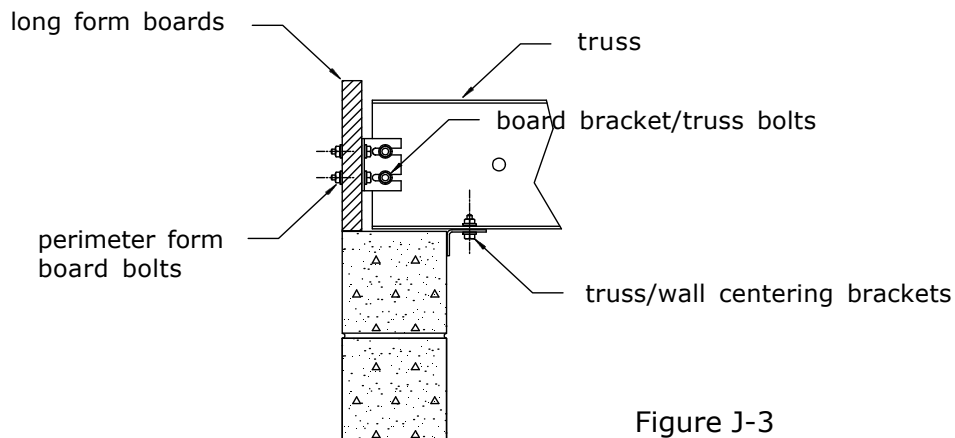

Figure J-3
2. Set the long form boards on top of the wall and against the face of the board brackets as shown in figure J-3.
4. Adjust the long perimeter form boards so that the outside face of the board is flush with the outside face of the wall, and tighten the board bracket truss bolts, as per figure J-3.